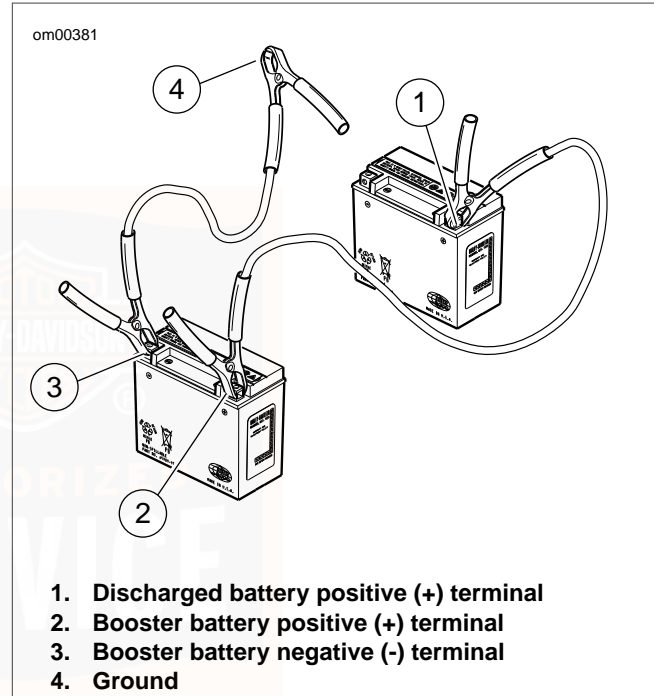

Figure 45. Jump Start Cable Connections
2. See Figure 45. Connect one end of a jumper cable to the DISCHARGED battery positive (+) terminal (1).
3. Connect the other end of the same cable to the BOOSTER battery positive (+) terminal (2).